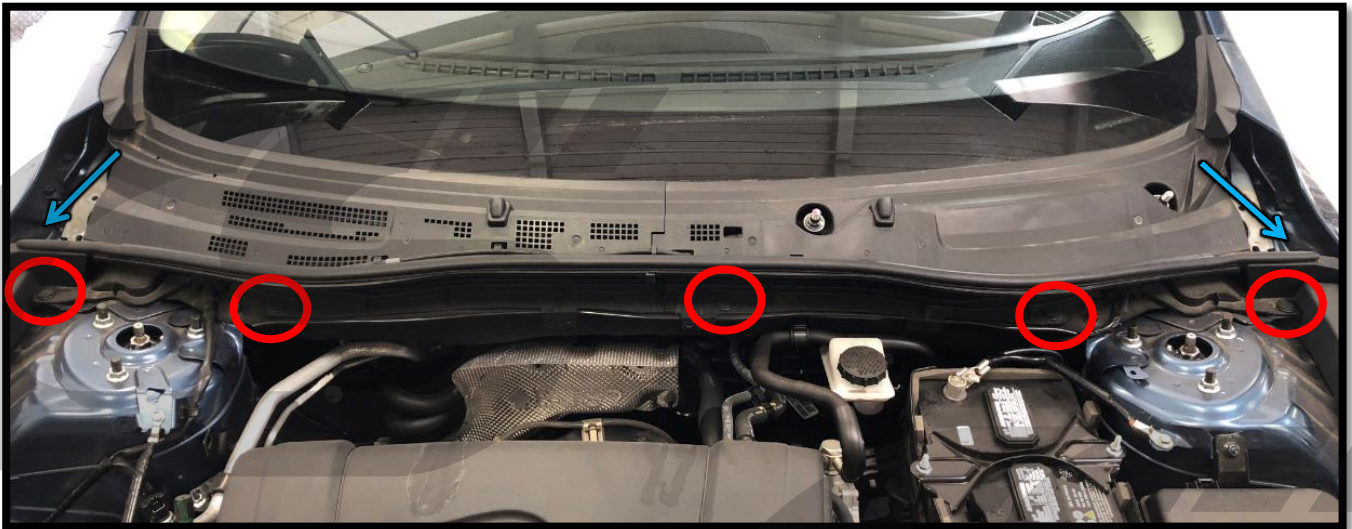
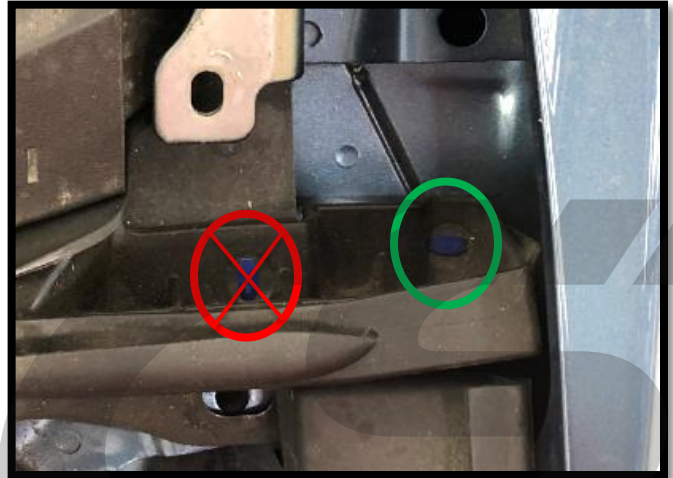

Figure 1d
Figure 1e
- h) Remove the 5 push clips from the plastic portion of the cowl. Shown **circled in red in Figure 1d.**
- i) Look into the corners of the cowl and locate the blue retainers that keep the rubber ends of the cowl in place. Look in the areas shown with **blue arrows in Figure 1d.** Also **circled in red in Figure 1e.**
j) Pull and stretch the rubber slightly to fit the blue retainer through the holes in the rubber. This will allow the rubber to come free from the retainers. There are two retainers on each side, only the outermost one needs to be removed. Shown circled in green in **Figure 1e**.